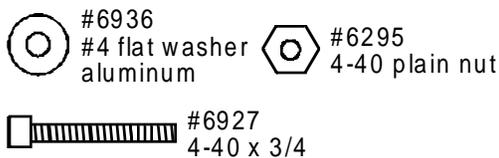
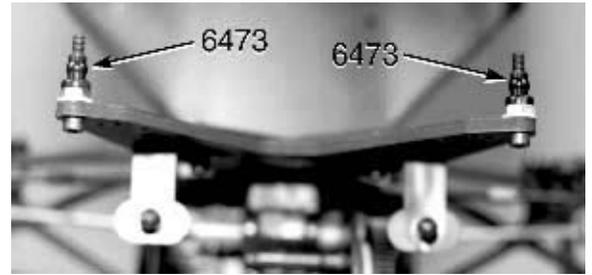

Fig. 132
Fig. 133
Fig. 132, 133 & 134 Now we are ready to start installing the shocks onto the truck. We will start with the rear shocks. (1) From bag #7-9 remove two #6927 4-40 x 3/4" SHCScrews, two #6936 #4 aluminum flat washers, and two #6295 4-40 plain nuts. (2) Screw the 3/4" SHCScrews into the top outside hole of the rear fiberglass shock strut, from the back (transmission) side as shown in fig. 132. (3) Now install one of the #4 flat washers on the front and then thread on the 4-40 plain nut. (4) Tighten the screws and nuts. (5) Now go back to bag #7-9 and remove the two #6473 nylon shock bushings. (6) Install one onto the threads of the two screws we just installed (see fig. 133). Make sure that the flange of the bushing is against the 4-40 plain nut.